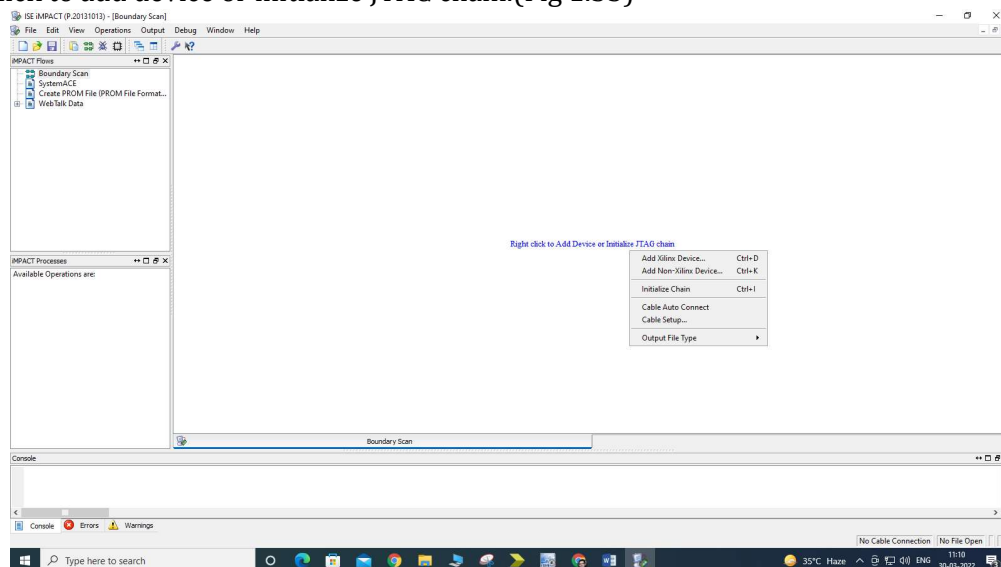

Fig 1.33
37. Right click to add device or initialize JTAG chain.(Fig 1.33)